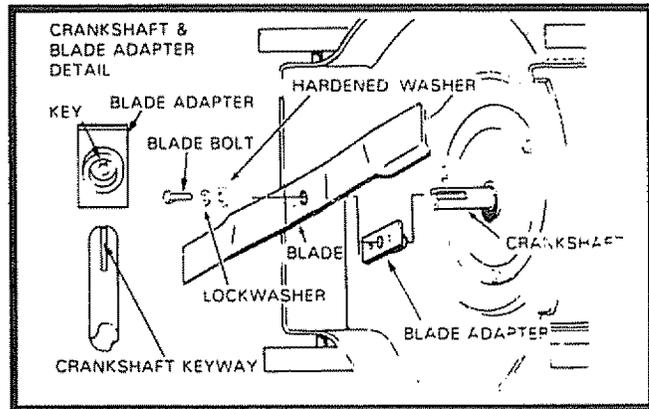

FIG. 13
- Remove Blade and attaching hardware (Bolt, Lockwasher and Hardened Washer) (See Fig. 13).
NOTE: Be sure the word TOP (stamped on the Blade) is toward the engine (See Fig. 13).
- Install the Blade Bolt with the Lockwasher and Hardened Washer into Blade Adapter and Crankshaft (See Fig. 13).